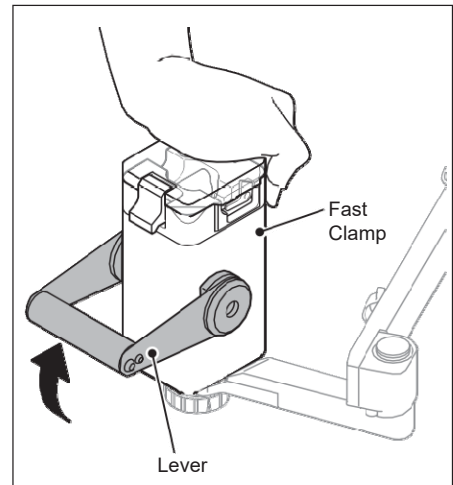

Figure 1-52
1. While holding the lid of the Fast Clamp, pull up the lever until you hear a click. (Figure 1-52)